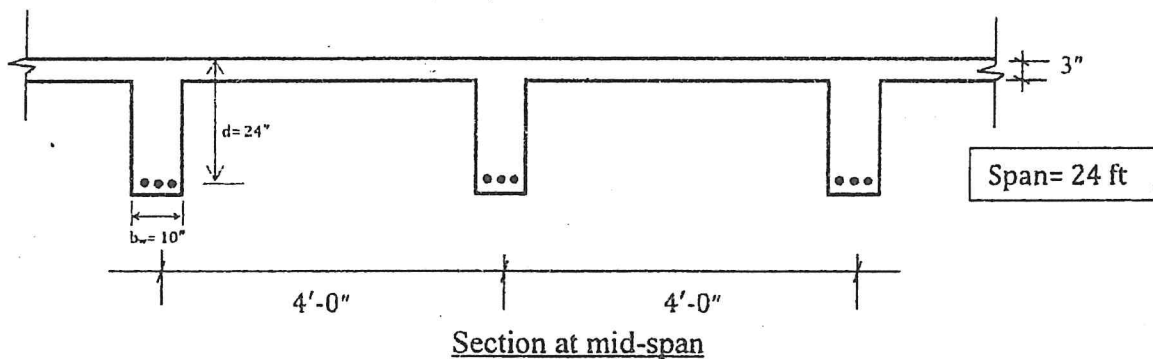

Fig. 2
4. (a) A floor system consists of a 3 in. slab supported by continuous beams with a 24 ft clear span and centre-to-centre spacing of 4 ft. as shown in Fig. 2. Slab and beam are monolithically cast. Beam web width $b_w = 10$ in. and effective depth, $d = 24$ in. At the mid-span of the beam, the required factored moment is $M_u = 700$ kip-ft. Design the flexural reinforcement at the mid-span. Check ϵ_t for the designed section.